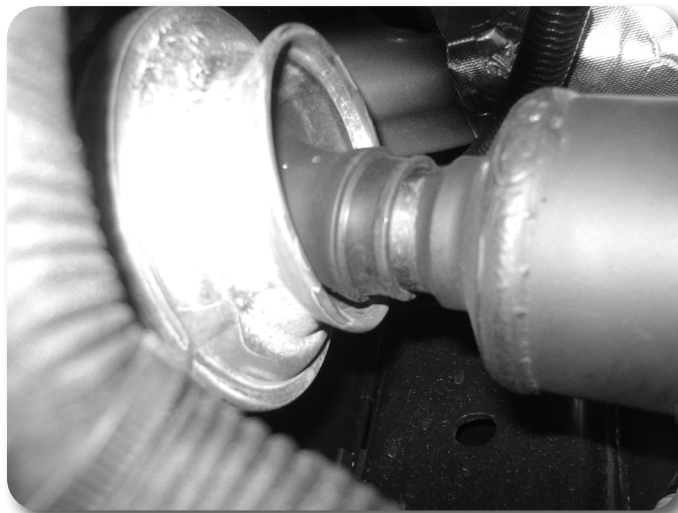

Figure 22
51. Reattach the front driveshaft to the front differential with factory hardware. Tighten to 55 ft-lbs. Remove the factory CV joint clamp at the front transfer case output. Slide the end of the boot up approximately 1/4" and reclamp with new CV joint boot clamp. **Figure 22**